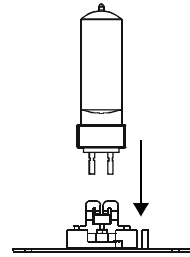

Figure 2-4 Inserting lamp into base
7. Holding the new lamp by its ceramic base, gently press the two base pins straight into the lamp socket (see Figure 2-4) until the lamp is firmly seated.